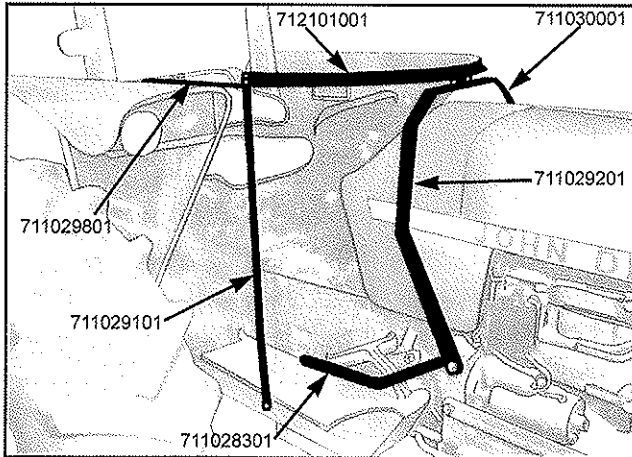

Figure 1
1. Bolt #711028801 saddle mounts to sides of tractor with 3/4" x 1" bolts. Right side to have #711028301 pedal guard over mounting. See Figures 1 & 2.
4. Bolt #711030001 mounting bracket to saddle using 5/16" x 3/4" bolts and nuts. See Figures 1 & 2.
6. Bolt #711029101 post to right footrest with 3/8" x 1" bolt and nut. Fasten #711029801 right side arm to post with 3/8" x 1 1/2" bolt and nut. See Figure 1.
9. Place cover over tractor and slide #712101001 yoke in wide hem at top. Bolt yoke to mounting bracket with 1/4" x 3/4" flat head bolts. See Figures 1 & 2.
tractor. Mount to flat topped fenders using existing mounting holes. On other fenders 17/32" dia. holes must be drilled after marking through holes. Use 1/2" x 1" bolts and nuts. See Figure 1.